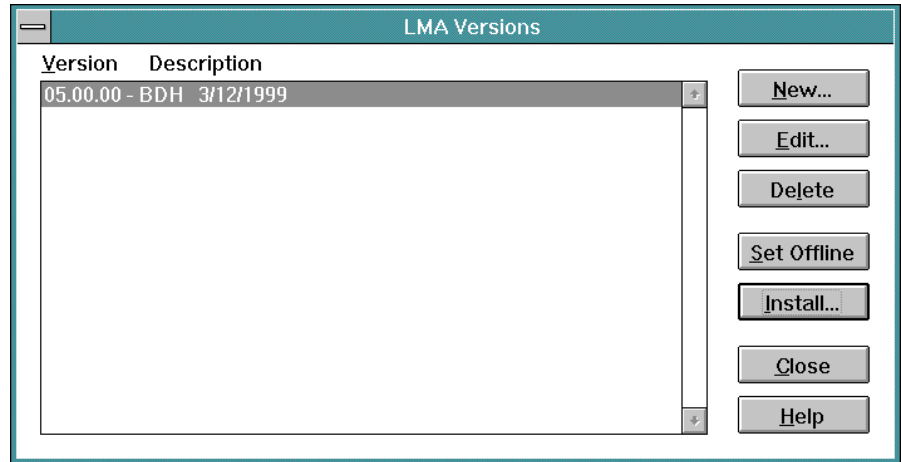

Figure 162. LMA Versions Dialog Box
2. Type a maintenance authorization password (default is **LEVEL002**) and click the *OK* button. The *LMA Versions* dialog box appears (Figure 162).